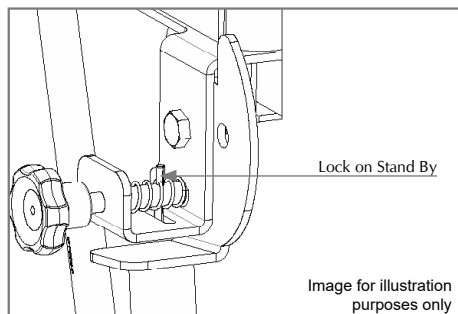

Figure B-2
- ✓ Mount the transport handle (1) to the indicated location (2).
- ✓ Use the knob (3) to screw the handle on the machine.
- ✓ After assembling both handles, release the position lock (4) and leave it in the standby position, as shown in Figure B-2.